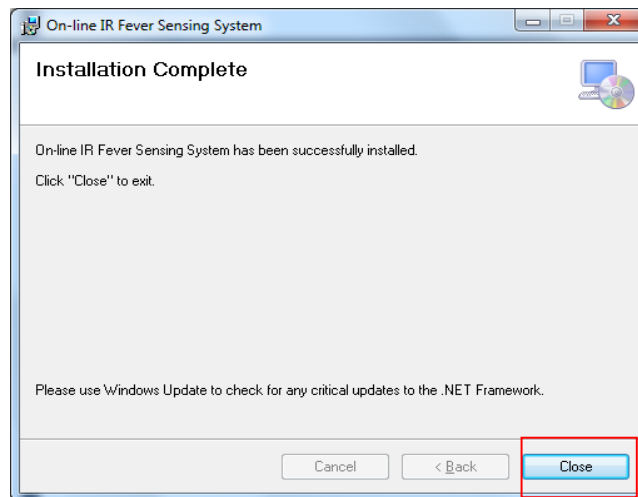

Fig. 3.3.5 Successful installation
- Click [Next] shown in Fig. 3.3.5, successful installation. Close.